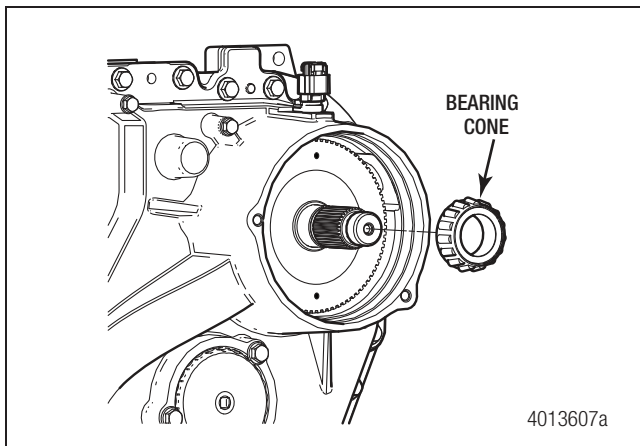

Figure 4.6
- Remove the tapered roller bearing cone from the shaft. Figure 4.6.